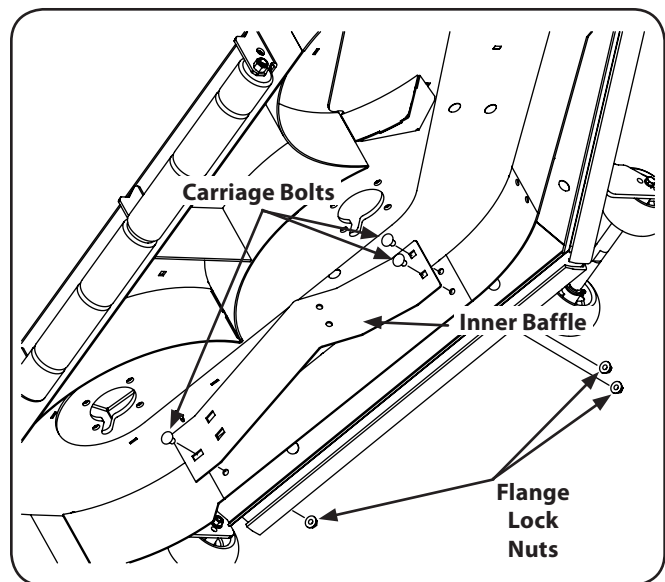

Figure 6-10
1. Remove the carriage bolts and flange lock nuts that secure the baffle to the deck to mow high-volume grasses. See Fig. 6-10.